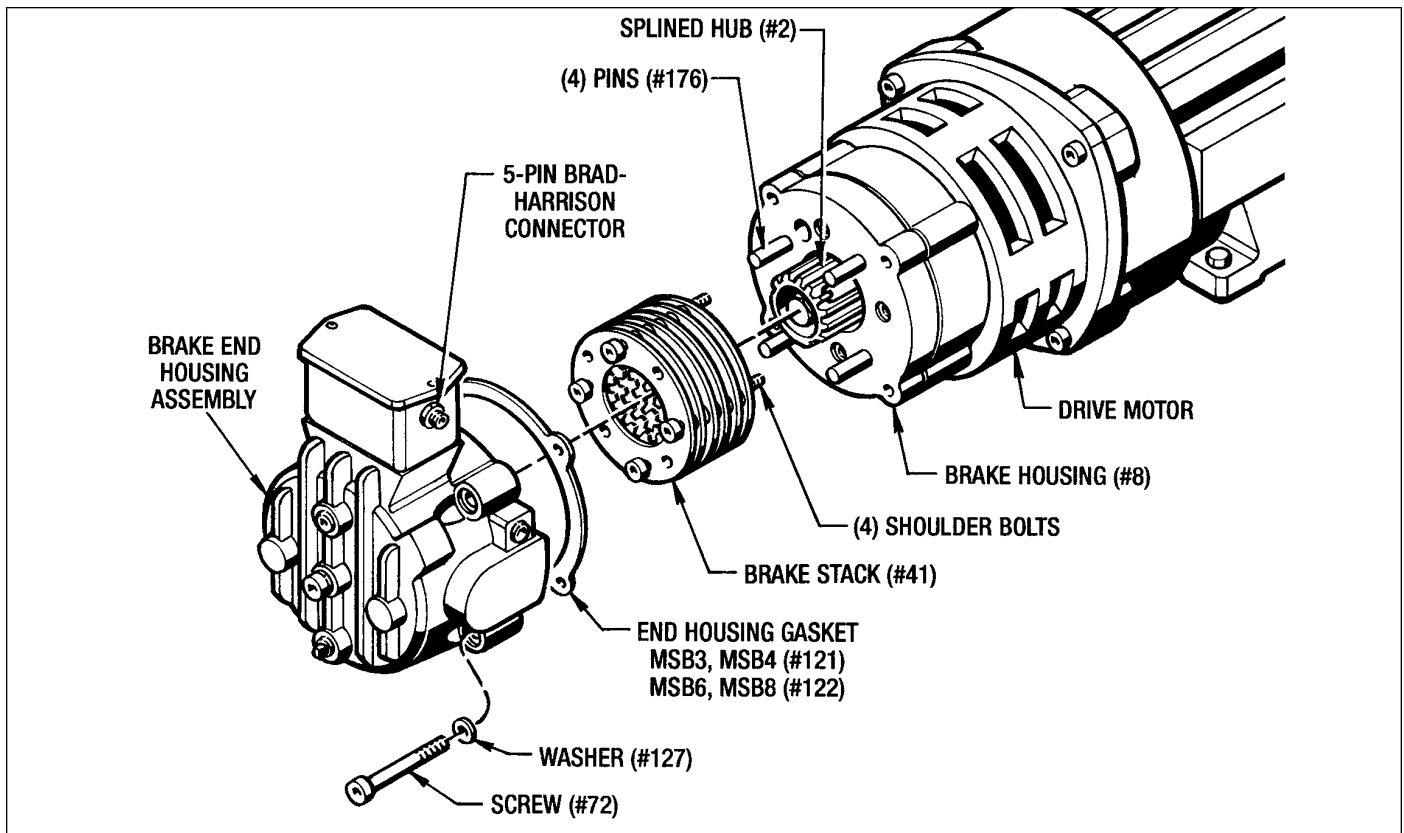

Figure 7.2 - Replacing the Brake Stack
3. Remove the Screws (#72) and Lockwashers (#127) from the End Housing (#9). *There are (4) Screws and Lockwashers on the MSB3 and MSB4 Brakes. The MSB6 and MSB8 Brakes has (8) Screws and Lockwashers.*
5. The Brake Stack (#41) can now be removed by unscrewing the (4) shoulder bolts that attaches the drive plates to Housing (#8). Pull the Stack off the
Hub (#2) spline and the (4) Pins (#176). (See Figure 7.2)